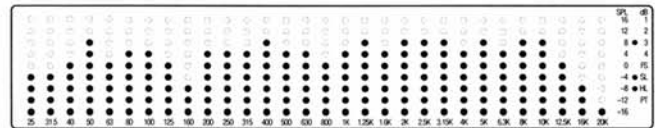

Figure 15. Pink Noise Curve of an Average Vehicle.
13. Figure 15 shows a typical pink noise curve of an average vehicle. You will notice that this vehicle exhibits a "peak" of +6 dB at 50 Hz, then a "dip" of -6 dB at 160 Hz, and subsequent "dips and peaks" in other frequencies and the response rolls off at 12.5 KHz. This indicates that the system has a boomy bass and little or no high frequencies.